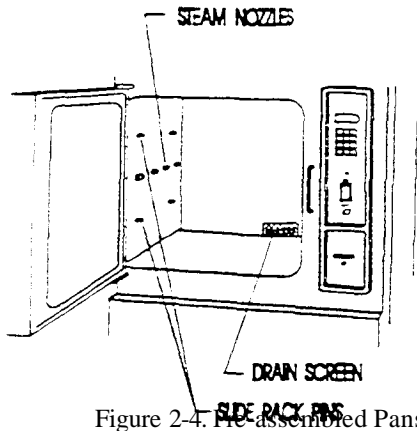

Figure 2-4. The assembled Pans
4. Open both cooking compartment doors. Several pre-assembled parts can be seen inside each cooking compartment. Refer to Figure 2-4, and verify that the Drain Screen, Steam Nozzles, and Slide Rack Mounting Pins are installed.